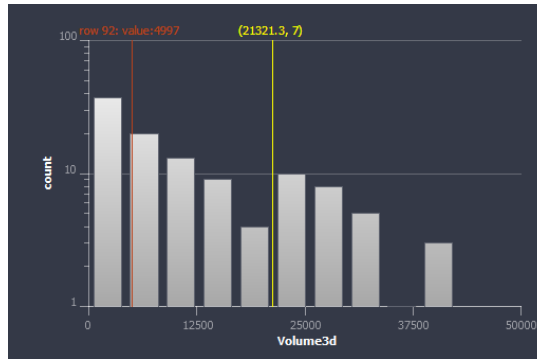

Figure 6.14: Line in the histogram corresponding to row 92
- Select a cell of the analysis lower table. The point dragger will move to the corresponding object location in the 3D view. If the histogram of one of the analysis measures is displayed, a vertical line appears that displays the position and value of the selected row, as shown on Figure 6.14.